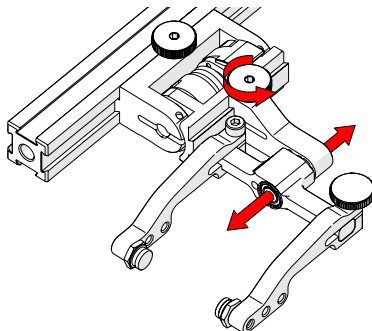

Fig. 46 - Adjust swing arm
3. Use the swing arm knob to position the swing arm (Fig. 46).